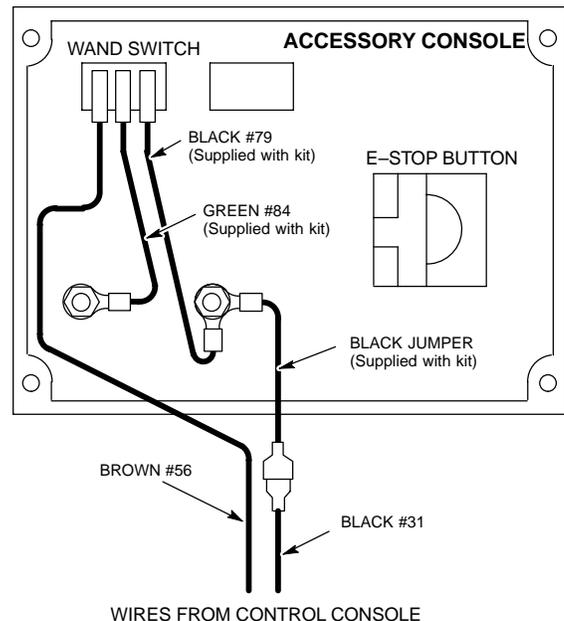

Fig. 6
10. Connect wires to accessory console as illustrated (Fig. 6). Wire assemblies #79 black, #84 green and black jumper are supplied with kit. *NOTE: Black jumper wire from kit is not required if machine is equipped with ES™ option.*